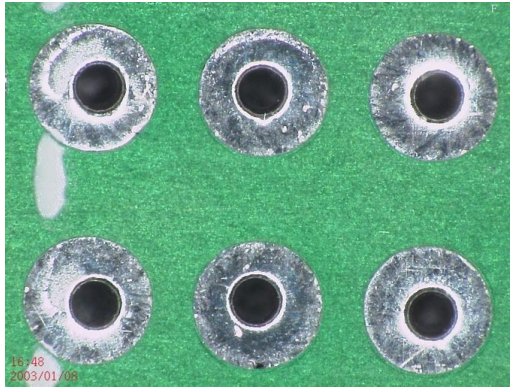

Figure 6: Example of Solder Mask “Dam”
- 3) Apply a solder mask “dam” to prevent excess solder flow on the backside of the PCB (Figure 6). During reflow, solder fills the vias, but spreading on the backside thermal land pad will be limited by the solder mask dams. Note